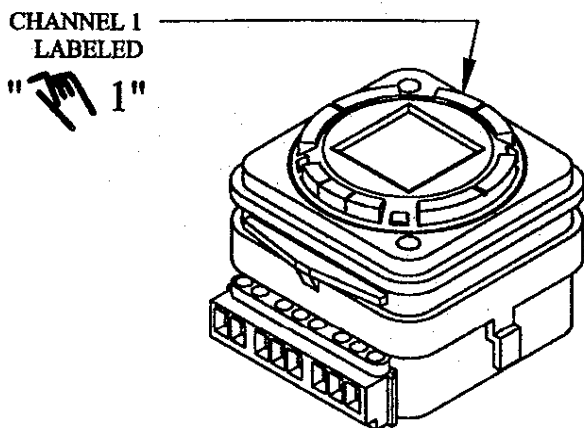
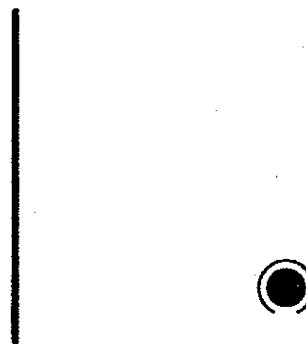

FIG. 5
FIG. 6
STEP 2. To choose channel 1, press the button at the top of the clock with a hand and a number one (1) on it. See Fig. 5. The following symbol as seen in Fig 6 should appear at the bottom left hand of the screen. This means it is ready for a start time to be programmed.